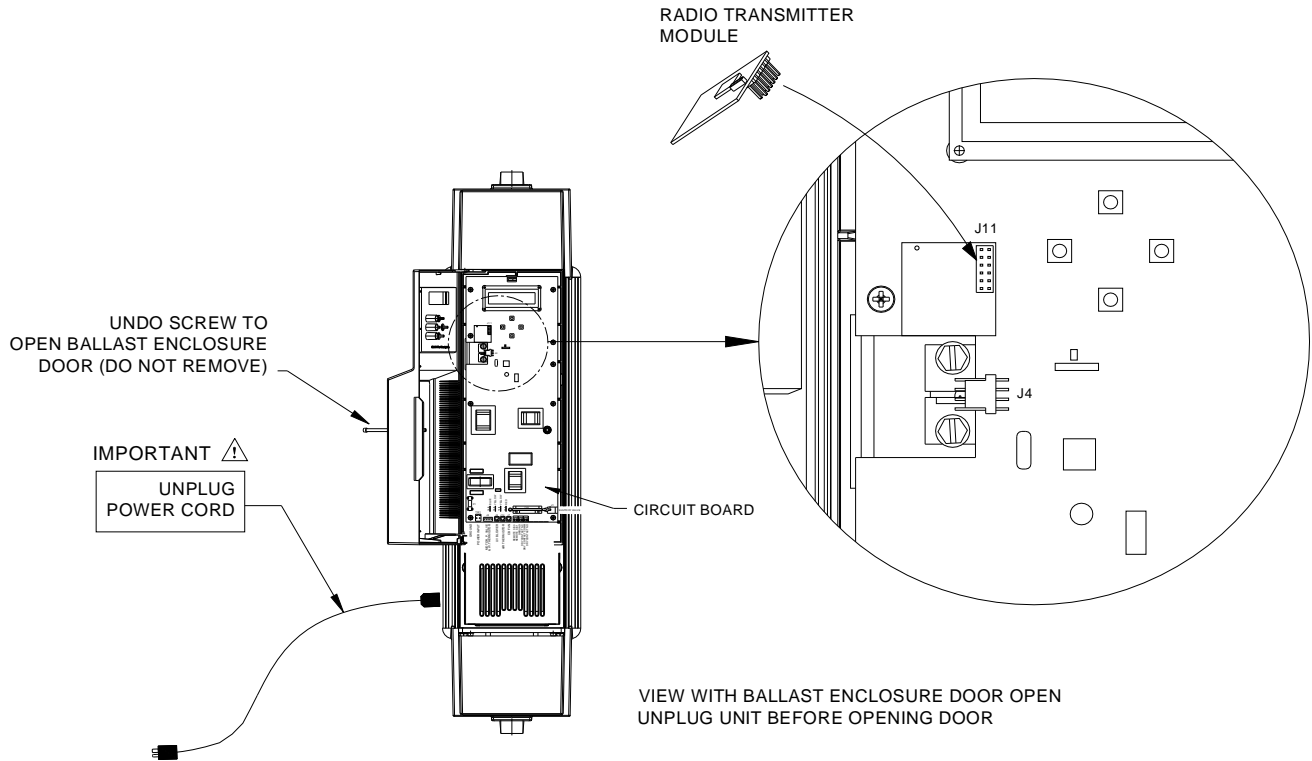

Figure 1
3. Plug radio transmitter module into circuit board – see Figure 1. Be sure not to bend any pins